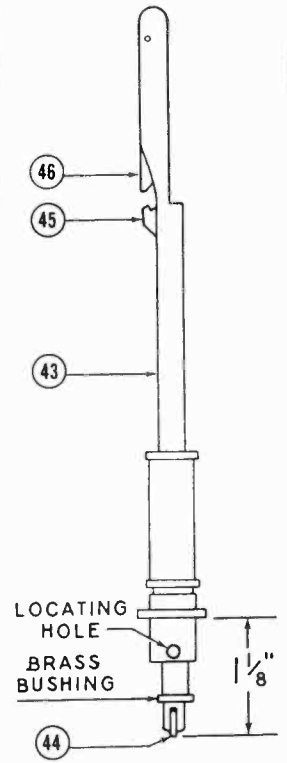

FIG. 9
<p>7. Binding between Lift Rod (37) and inclined plane of Lift Arm Assembly (83).</p> <p>8. Center Post Roller (44) being compressed too far.</p> <p>9. Weak Motor (62).</p>	<p>To check for this action proceed as follows:</p> <ol style="list-style-type: none"> <li>Replace Lift Rod (37) and Spring (38) taken off in steps 6d and 6e.</li> <li>Leave Center Post (43) in same position as in step 6g.</li> <li>Turn Control Knob (52) to "REJ." position and rotate Turntable (48) by hand until Lift Arm Assembly (83) has moved in one direction as far as it will go and is about to return.</li> <li>Raise Lift Rod (37) by pulling up. It may still be contacting the inclined plane of Lift Arm Assembly (83) but it should not bind. If binding does occur, check for bent lift arm bearing shaft. It may be necessary to remove Fibre Washer (84), which may be under Lift Arm Assembly (83), to lower the arm.</li> </ol> <p>To check for this action proceed as follows:</p> <ol style="list-style-type: none"> <li>Replace Center Post (43) released for steps 6g and 7b.</li> <li>Turn Control Knob (52) to "REJ." position and rotate Turntable very slowly by hand until Center Post Roller (44) reaches position on inclined plane of Lift Arm Assembly (83) illustrated in Fig. 3. It will be noted that "Brass Bushing" has also risen but at this point stops. A further movement of Lift Arm Assembly (83) causes roller shaft to move up into "Brass Bushing" a distance not to exceed <math>\frac{1}{16}</math>". Should the latter movement exceed this, it may cause the Lift Arm Assembly (83) to bind due to excessive pressure. In that event check the following:             <ol style="list-style-type: none"> <li>Bearing for Lift Arm Assembly must be square with the changer Base Plate (25).</li> <li>Remove any fibre washer between metal washer and bottom of Lift Arm Assembly (83).</li> <li>Center Post may be too long. The critical <math>1\frac{1}{16}</math>" dimension shown in Fig. 9 should not be exceeded.</li> </ol> </li> </ol> <p>After checking the preceding eight items and relieving any binding action, replace Idler Wheel (63). Should the changer then continue to stop during a change cycle, it may be assumed that the motor is weak (has low torque) and should therefore be replaced.</p>
Center Post (43) and Bearing Race (50).	To remove Center Post (43) loosen Set Screw (47) and withdraw post from top of changer. Turntable Washers (49) and Bearing Race (50) are held in place by Retaining Ring (51). To replace Center Post (43) first be sure that Turntable Washers (49) and Bearing Race (50) are in place. Next, insert Center Post (43) from top of changer and tighten Set Screw (47) making sure screw enters "Locating Hole" at base of Center Post (43) (see Fig. 9 and 14.)